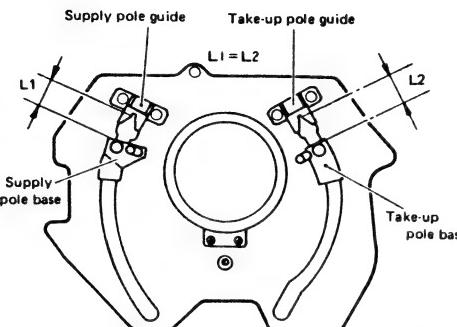

Fig. 2-18 Loading ring check
7. Turn the loading motor pulley by hand to move the loading ring slightly in the unloading direction. Check for equal spacing between the supply pole guide and supply pole base, and between the take-up pole guide and take-up pole base. See Fig. 2-18. If not equal, the loading gear ass'y mounting position is incorrect. Repeat the above step 6.